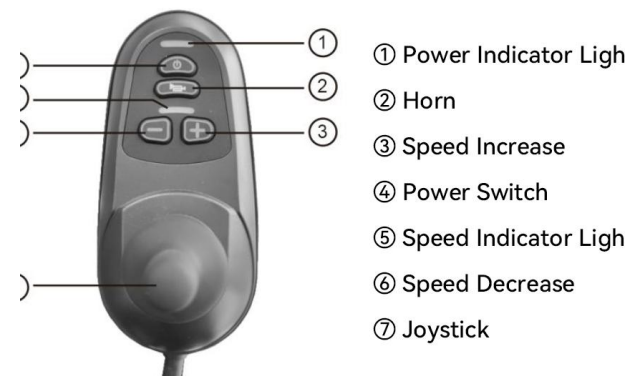

Figure 12
4.2.1 Controller Function Description (See Fig. 12)